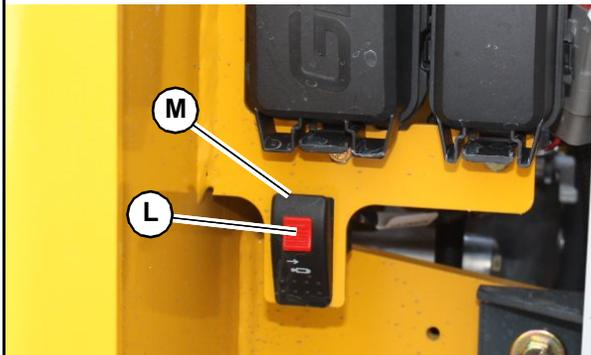

Fig. 151 – Track Tension Switch
2. With the machine running and the drive system not moving, open the engine compartment. Press and hold the lock button (L, Fig. 151) on the track tension service switch, and press the top (M) of the switch to set the track tension cylinders into the service (retracted) position.